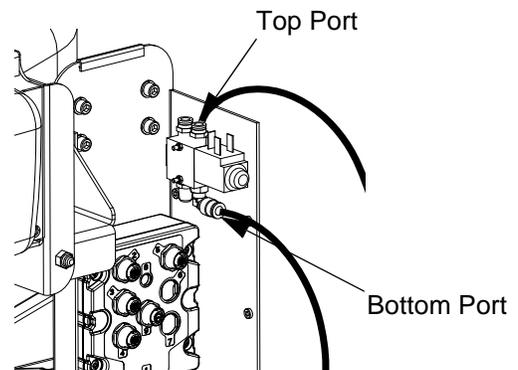

FIG. 97: Install Air Lines - Solenoid Valve
- b. Run the air lines between the adapter bracket and connect them to the top port and bottom port of the solenoid valve assembly as shown. See FIG. 96 and FIG. 97.